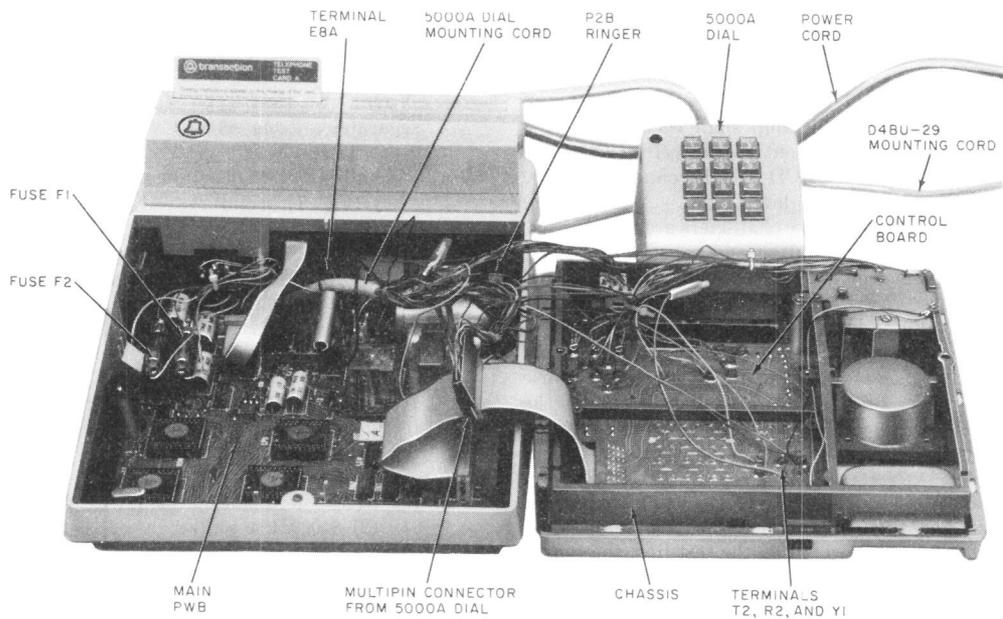

Fig. 5—5000AM Transaction I Telephone Set Base With Upper Housing and Chassis Laid Aside and 5000A Dial Connected
(3) Lay the upper housing and chassis to the right, as shown by Fig. 5, without disconnecting any cables.
(3) Install new 138B-type faceplate.
(4) Open the set (3.07); lay the upper housing and chassis to the right (Fig. 5).
(5) Hold the lower housing up on its side and feed the mounting cord of the dial through the cord entrance hole in the base pan. Using Fig. 5, make connections as follows:
4.02 There are two fuses, (F1 for -12 volt and F2 for +5 volt circuitry) mounted on a block near the left rear corner of the main PWB, Fig. 5. If a fuse failure is suspected, the fuses may be removed (access per 3.07), and checked visually or observe the following indications: